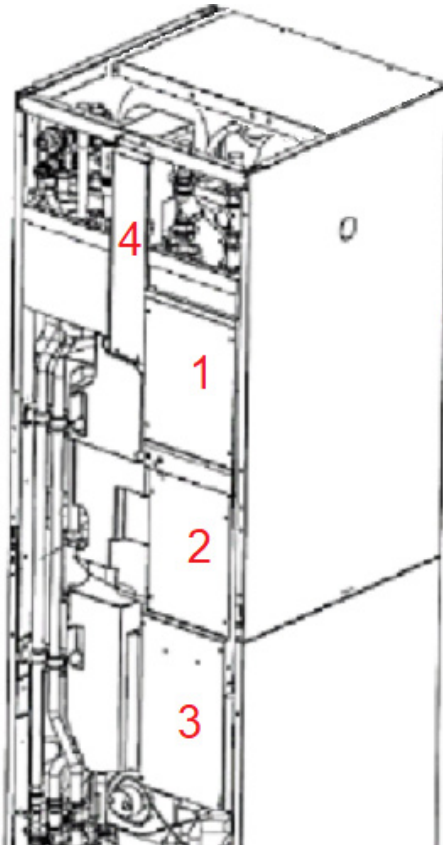

Fig. 64 : Remove metal covers
8. Remove the metal covers to expose the PCB's. See Fig 64.